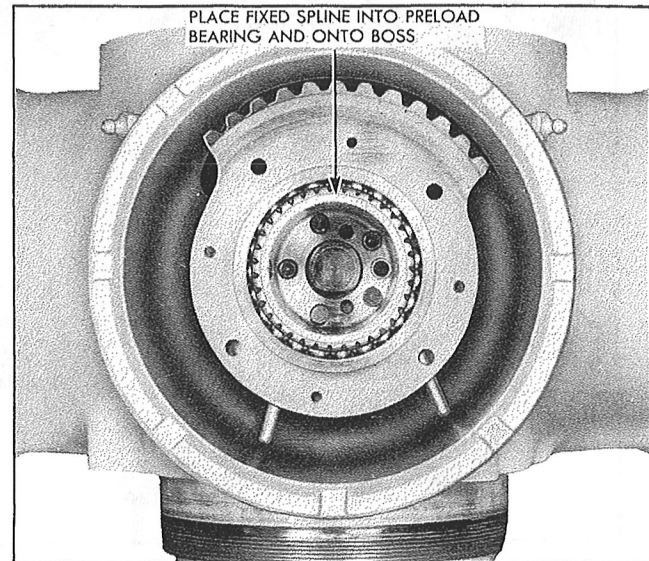

Figure 116—Installation of the Fixed Spline
Step 5.—Install a new gasket on the fixed spline and place the fixed spline on the boss in the hub socket. See Figure 116.